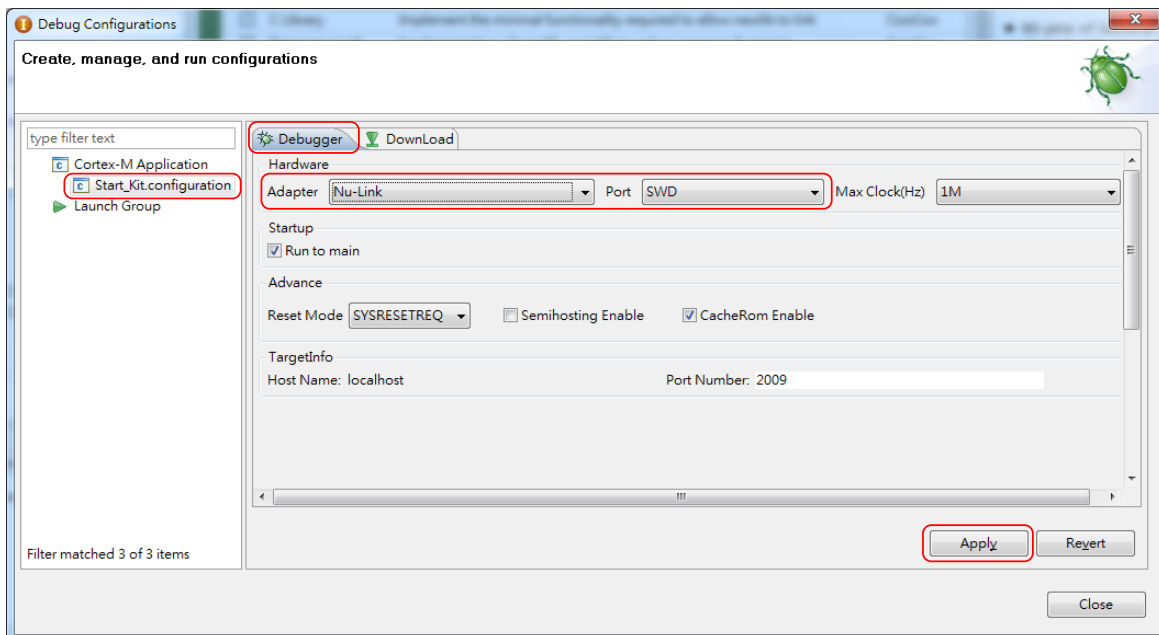

Figure 4-20 Specify the Debugger Options for CooCox CoIDE
Step 3: In the **Debugger** tab of the *Debug Configurations* form (through invoking **Debug** → **Debug Configurations**), select "**Nu-Link**" as the Adapter, select "**SWD**" as the Port, and click **Apply** to save the settings, as shown in Figure 4-20.